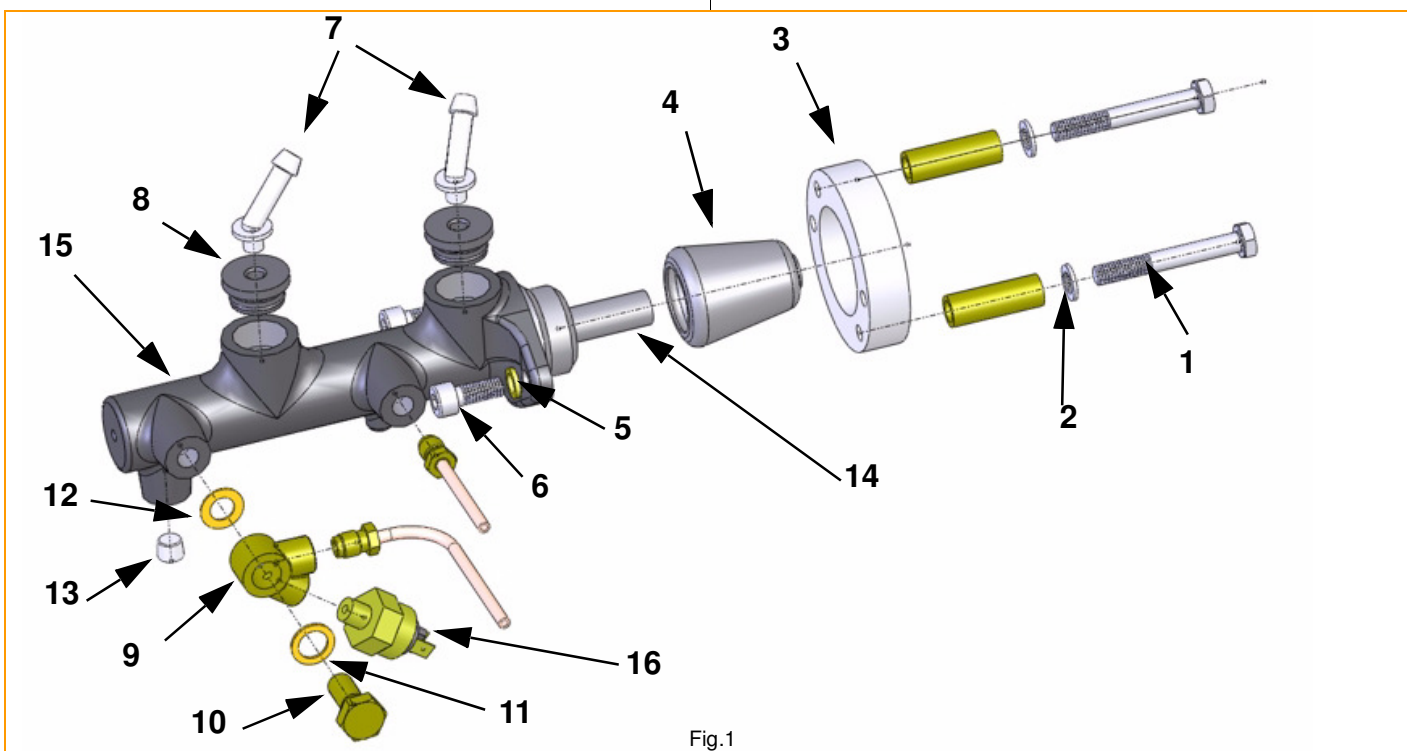

Fig.1
- Put some brake fluid on the outside of the rubber grommets (Pos.8, Fig.1), then push them into the master cylinder.
- Put also some brake fluid on the outside of the plastic elbow connectors (Pos.7, Fig.1), then push them into the rubber grommets.
- Plug the lower front hole in the master cylinder using the M10x1 pipe plug (Pos. 13, Fig. 1)
- Now install the brass banjo fitting (Pos.9, Fig. 1) using the banjo bolt with the two copper gaskets to the front side fitting of the master cylinder.
- The brake light switch (Pos. 13, Fig. 1) need to be installed to the lower port of the banjo fitting. Make sure that the thread is pointing upwards to avoid any chance of air in the system.